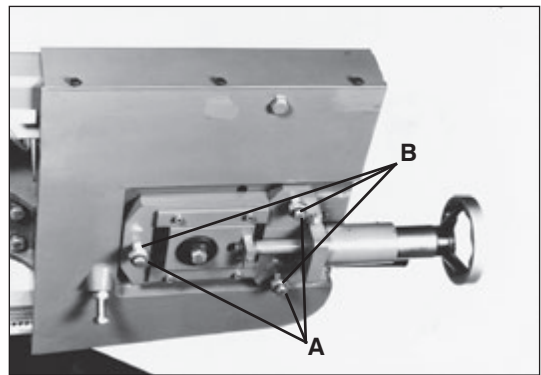

Fig. 5
4. Loosen the three bolts (A - Fig.5) located on the top of the tracking nuts.
5. Tracking adjustment is accomplished by either loosening or tightening three adjusting nuts (B - Fig.5).